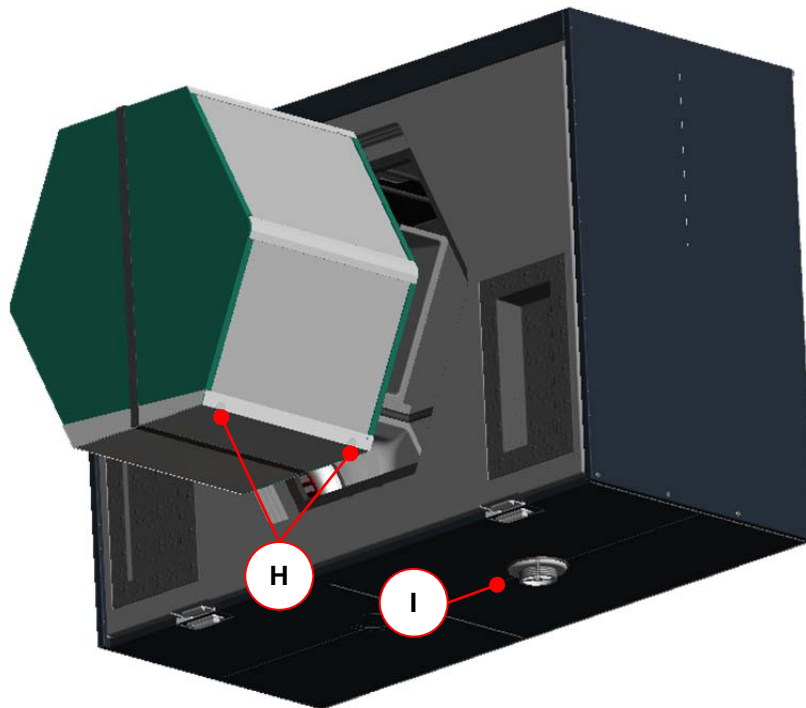

Fig 42: Position of the condensate pan when inserting the heat exchanger into the HRU
2. Insert the respective heat exchanger type considering the notes on Fig 42, and perform the work steps 9. to 10. pursuant to 3.7.1.